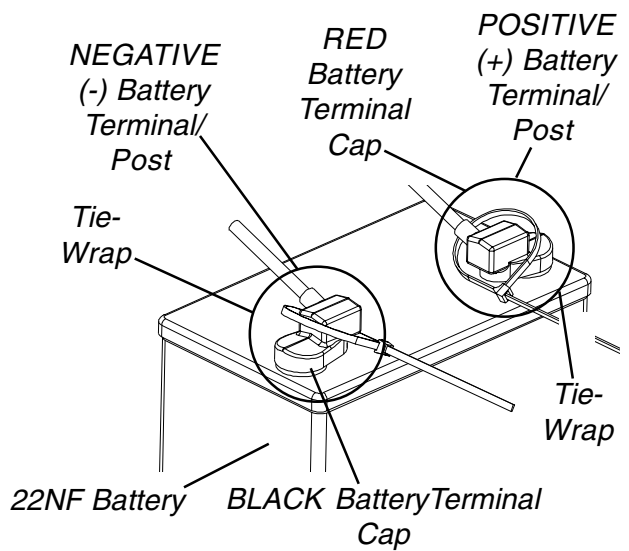

FIGURE 3 - CONNECTING BATTERY CABLES - DIRECT MOUNT METHOD
3. Secure the battery cable(s)/ring terminal(s) to the battery terminal(s)/post(s), BLACK to NEGATIVE (-) and RED to POSITIVE (+), with the provided 1/4-20 x 7/8-inch hex flange screw and hex flange locknut. Securely tighten. (DETAIL "A" or DETAIL "B" of FIGURE 3, depending on battery type).
5. Slide terminal cap(s) down battery cable(s) and onto battery clamps (FIGURE 3).
6. Secure each terminal cap in place with a tie-wrap (Use tie-wraps 11-1/2-inches long) (FIGURE 3).